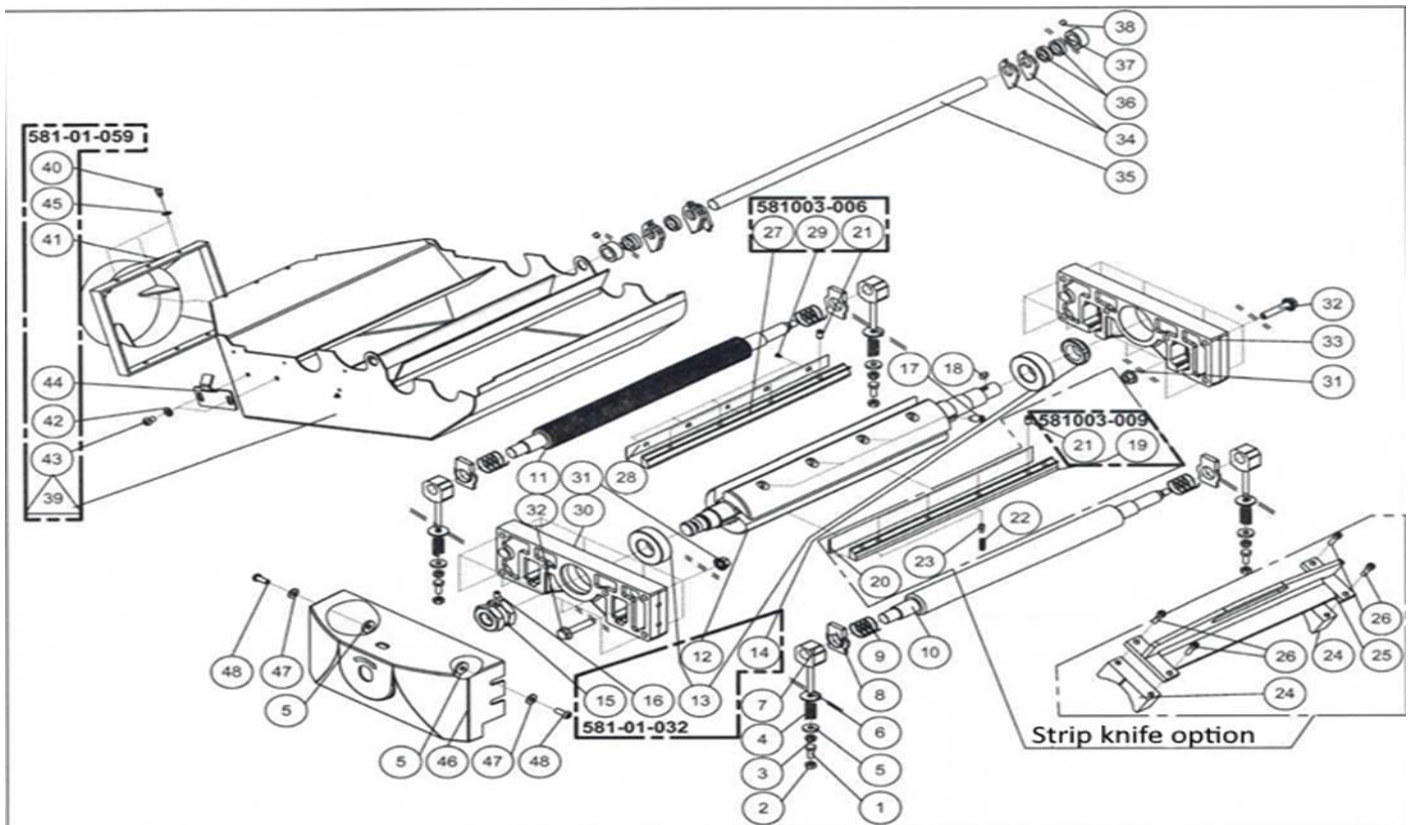

Figure 3
Because I heavily relied on the A3-31 parts diagram I have also included it. I obtained the original parts diagram from Felder and used the Google translator to translate from German to English. I have not verified the translation nor do I plan to do so. I have identified each figure and the identification appears under the bottom left corner of each image. When I reference a part I will identify the part using the figure number and the part number on that page, example: 3-48, this is figure 3, part 48 and sometimes I will include the description of the part as well (Pan head screw with ISK M6x16)
1.2.3 Figure 3